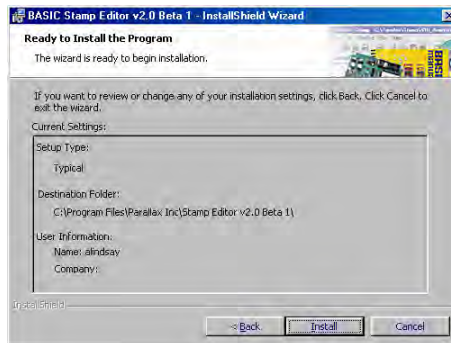

Figure 1-20
- ✓ When the InstallShield Wizard tells you it is “Ready to Install the Program”, click the *Install* button shown in Figure 1-20.